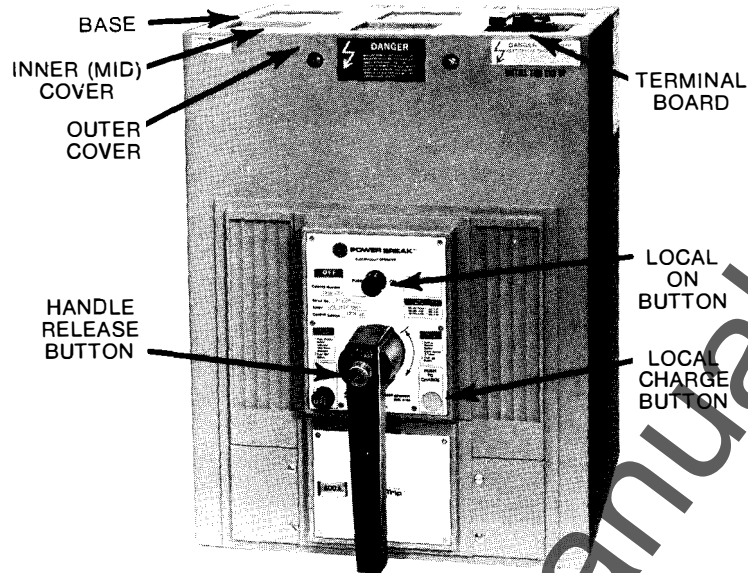

Figure 23. Electrically Operated
2. Outer Cover Removal—Electrically Operated Breakers—See Figure 23.
NOTE: When removing the breaker outer cover, be sure that the terminal board support slips out of the notch in the outer cover and remains with the motor-power unit assembly. (See Figures 23 and 24.)
- f. Reconnect the power leads at the terminal board. See Figure 23.